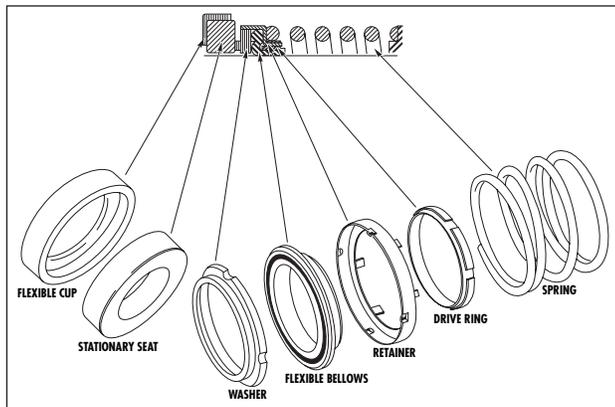

Figure 6. Mechanical Seal.
5. Remove the two foot support capscrews. Loosen, but do not remove the volute capscrews (5). Use capscrew in the jack screw holes to loosen the pump assembly from the volute.
6. Now remove the volute capscrews (5) and remove the pump assembly from the volute.
7. Remove the impeller capscrew (9), lockwasher (9A) and impeller washer gasket (9B). Remove impeller (11).
8. Remove impeller key (12).
9. Remove the O-ring (10).
10. Remove the rotating portion of the mechanical seal (head). Refer to Fig. 6.
The mechanical seal (*see Figure 6*) (27) is a precision product and must be treated as such. During installation, great care must be taken to avoid dropping any part of the seal. Take particular care not to scratch the lapped faces on the washer or the sealing seat.
4. Install O-ring (10).
5. Install a new impeller key (12).
6. Install impeller, impeller washer (9A), new impeller washer gasket (9B), lock washer (9C), and capscrew (9). Tighten capscrew per torque chart (*see Table 1*).
7. Install new casing gasket (8). Then install the pump assembly into the volute.
8. Tighten volute capscrews (5) per torque chart (*see Table 1*).
9. For 3804 pumps, install foot support capscrews (62) and tighten per torque chart (*see Table 1*).